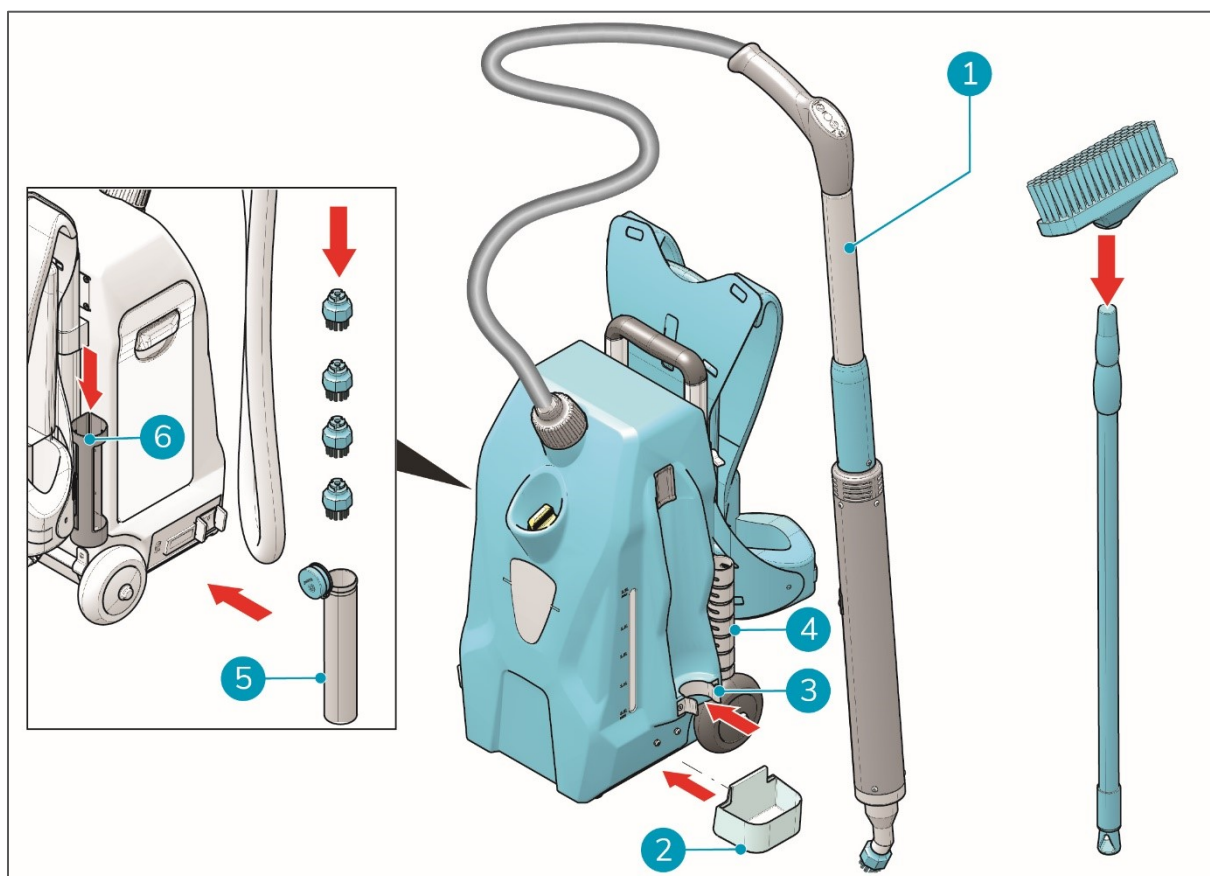

Figure 7
1. Attach the drip tray (fig 7, pos 2) to the body.
2. Click the lance (fig 7, pos 1) into the holder (fig 7, pos 3), with the metal plate facing the main body.
4. Place the broom in the broom holder (fig 7, pos 4).
5. Place the spare brushes in the storage tube (fig 7, pos 5).
6. Place the storage tube into the holder (fig 7, pos 6) on the left side of the main body.